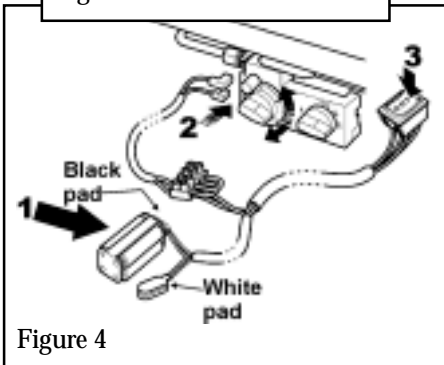

Figure 4
2. Temporarily connect the **black** connector pad to the control unit – See figure 4.
3. Operate the switch. This should cause the flame control knob to rotate anticlockwise. See figure 4.